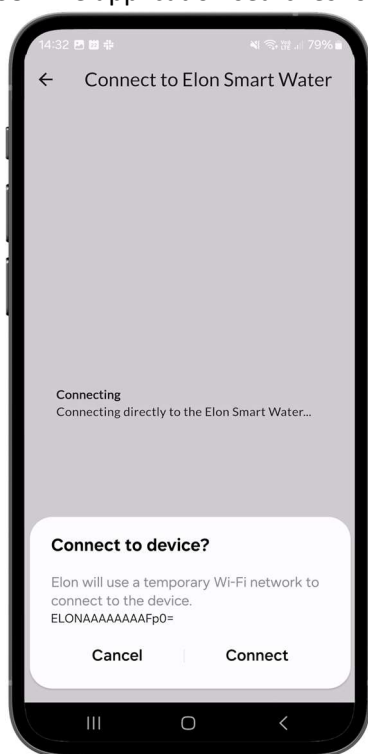

Figure 4.10 Network change
34. The application requests confirmation to switch to the Smart Thermostat’s hotspot (**Figure 4.10**).